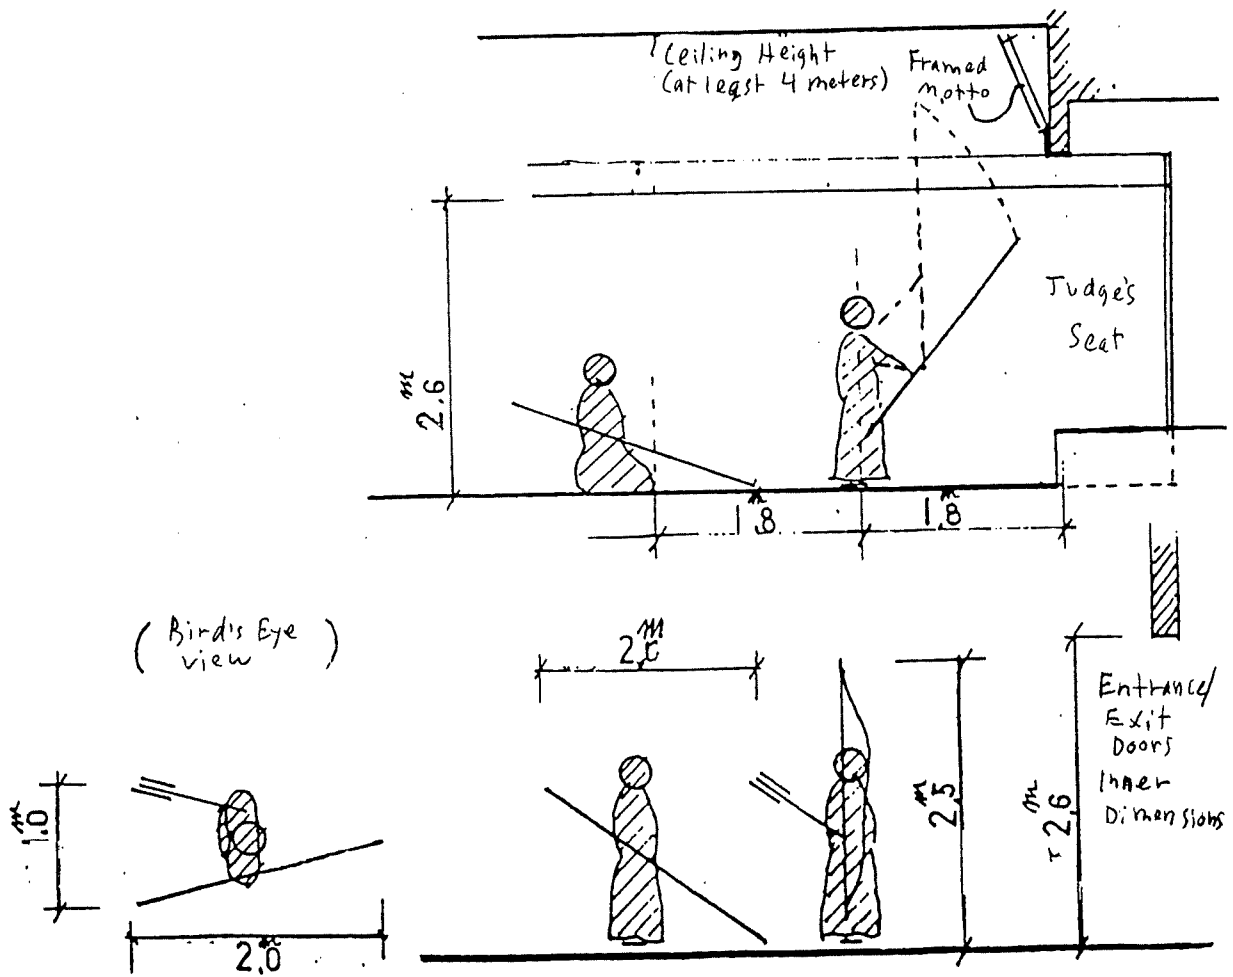

Figure 2 Required Space For Archers
3. The ceiling in the *wakishomen* area (the right side of the dojo as you face the targets) should not be sloped or pitched, since framed mottoes or pictures (*hengaku*) are often placed there. See Figure 2.